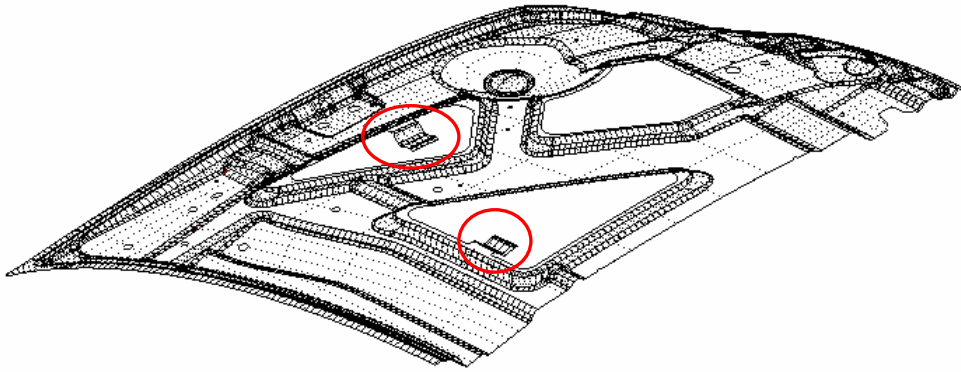

Figure 9 Flange surfaces
5. Click the **Displayed Surf** button to highlight all the surfaces in the display area, as illustrated in Figure 9.
7. Use your mouse cursor to select the flange surfaces as circled in Figure 9.